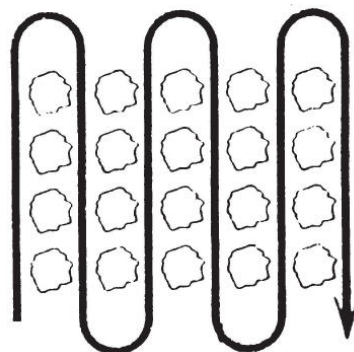

Figure 8
You can use the DR ROTO-HOG Premier Power Tiller for cultivating (**Figure 8**), which requires a minimum of two (2) inches of soil penetration.
- Set the tines so they will penetrate the soil to a depth of two (2) to three (3) inches.